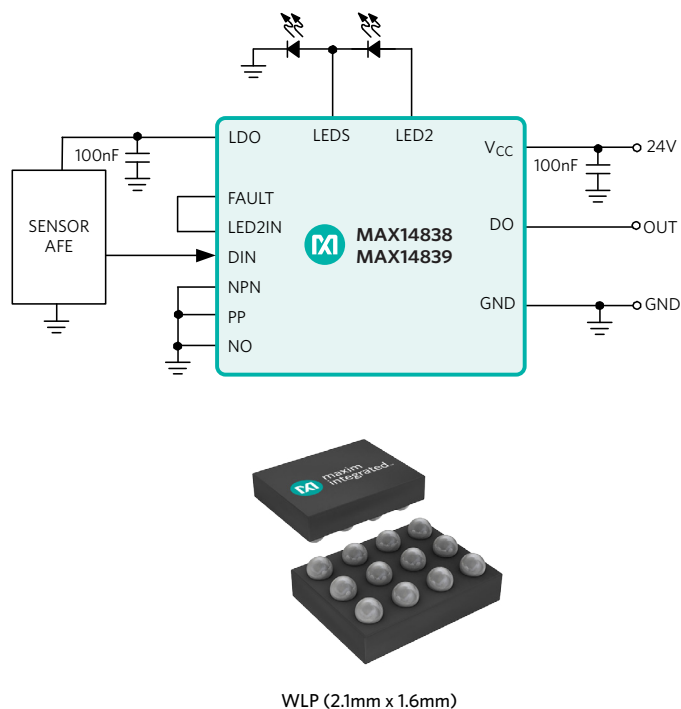

Figure 41. MAX14838/MAX14839 Binary Sensor Driver
- On-Chip 5V Linear Regulator (MAX14838)/3.3V Linear Regulator (MAX14839) (Figure 41)